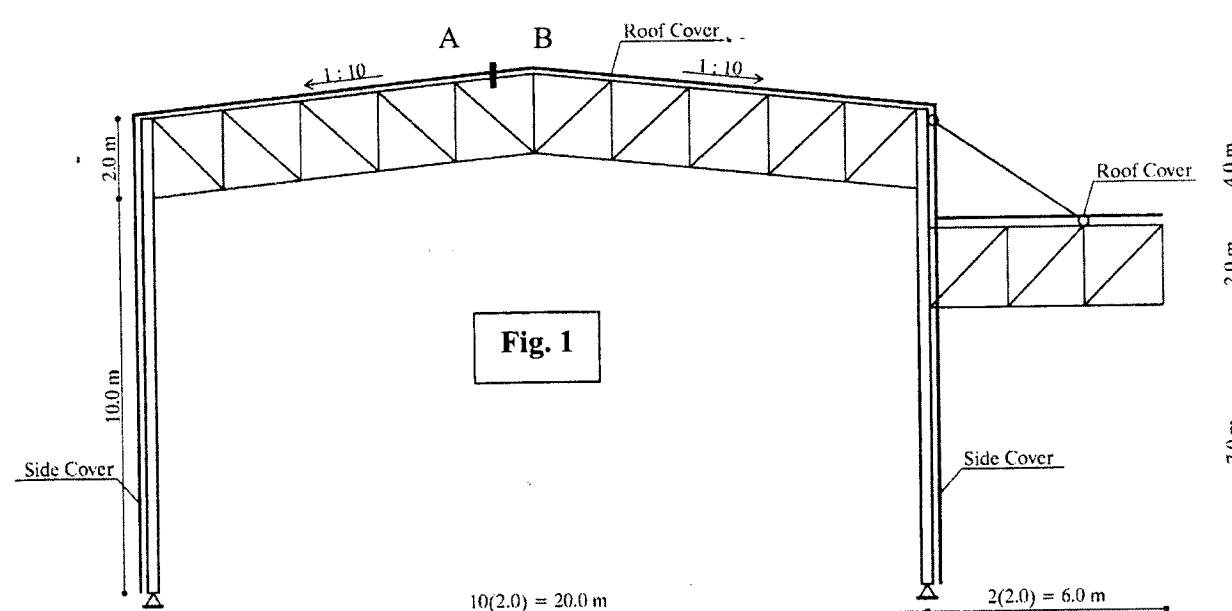

Fig. 1
It is required to cover an area of $48\text{m} \times 26\text{m}$ using the main system shown in Fig. 1. The covered area is located in Hurghada city and used an industrial factory with width 20m attached with side car shed 6m . The used covering material is single layer of steel corrugated sheets. It is required to draw with suitable scale different views of the system showing the arrangement of systems and the used bracing systems.
For the same shown main system (**Fig. 1**), if the spacing between trusses (S) is equal to 6m, the own weight of steel is 30 kg/m^2 and the own weight of the covering corrugated sheets is 6.0 kg/m^2 . In addition, if the factory is located in Hurghada City (with basic wind speed (V) 36 m/sec), and the live load is 57 kg/m^2 of the covered area.
- a) **Design the upper cord member (AB)** shown in **Fig. 1**, knowing that: Max. $F_{-ve} = -10\text{ t}$, Max. $F_{+ve} = +12\text{ t}$, the connection for the member at joint A is welded, and at joint C is Bolted (M16), steel used St 37 ($F_y = 2.4\text{ t/cm}^2$) (13%)